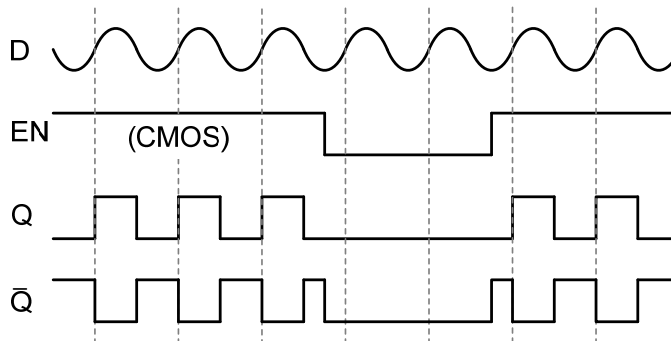

Figure 1
Figure 1 illustrates the timing sequences for the CTSLV392 in the ÷1 mode which is determined by leaving the DIV-SEL open (NC). It also illustrates the enable in the active High mode being controlled by a CMOS signal. This mode is determined by leaving the EN-SEL open (NC).